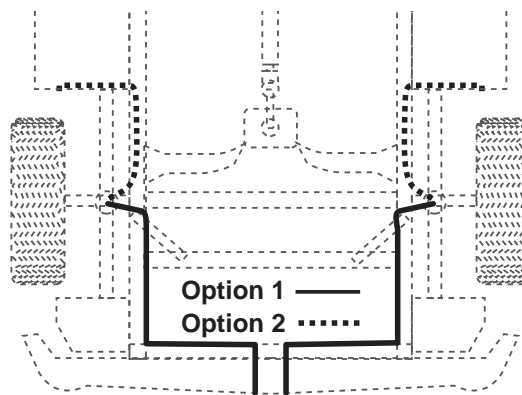

fig. 9
1. Insert a length of air line into the open port at the top of the air spring. Use Figure 9 as an air line routing guide.